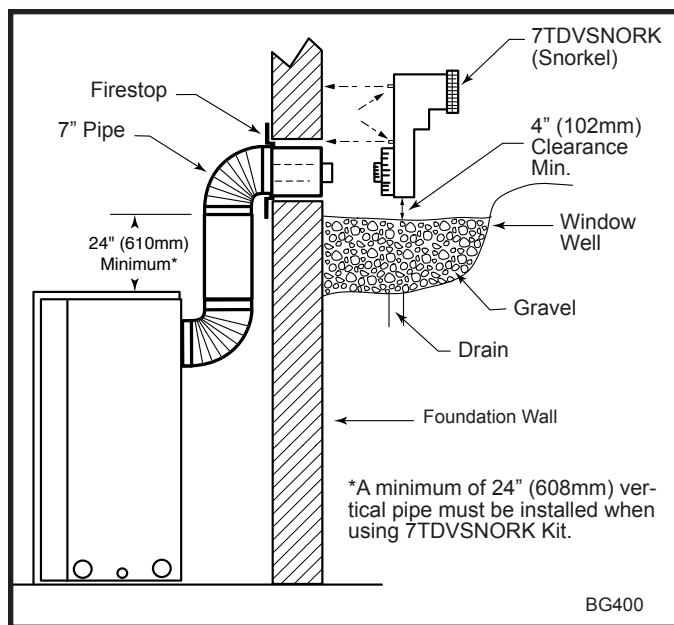

Fig. 34 Below grade installation.
2. Remove soil to a depth of approximately 16" (406 mm) below base of snorkel. Install window well (not supplied). Refill hole with 12" (305 mm) of coarse gravel leaving a clearance of approximately 4" (102 mm) below snorkel. (Fig. 34)
7. Level the soil to maintain a 4" (102 mm) clearance below snorkel. (Fig. 34)